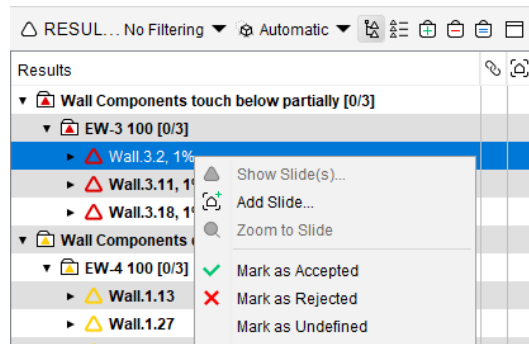

Figure 57: Accepting issues
(17) Right click the "Wall Components don't touch below" > "IW-5 30"> and you will get a pop-up window with other ways to mark the results. Choose "Mark as Accepted" this time (see Figure 57).